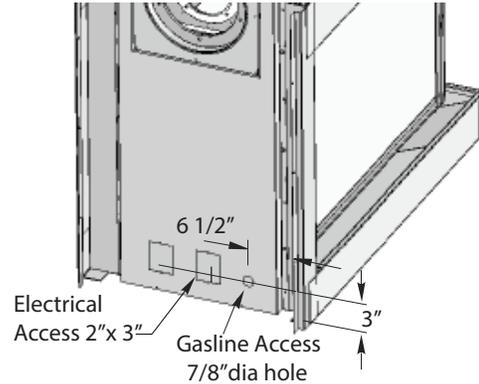

Figure 22. Gas line access.
- See **Figure 22** for location of gas line access.